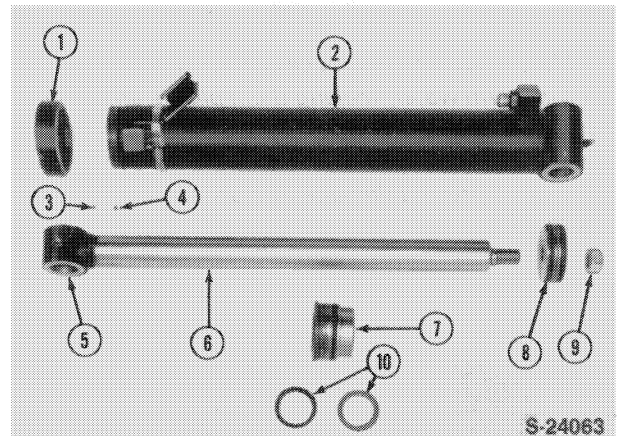

Figure 13
5. Secure the cylinder rod trunnion in a vise, or preferably secure to an anchor point on the backhoe using an attaching pin. Remove the piston retaining locknut using a quality socket and drive system. Considerable torque may be required to loosen the locknut, Figure 13.
7. Remove the head and cap from the cylinder rod, Figure 13.